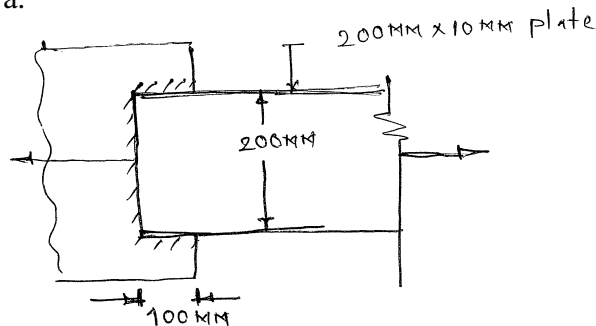

Fig. 1 [Q. 1 (B) b]
- For a tension member as shown fig. 1. Determine block shear strength. $f_y = 250$ MPa, $f_u = 410$ MPa.